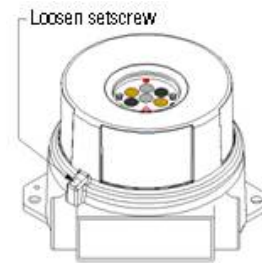

Figure 2-6
1. Loosen the set screw on the enclosure lid (see Figure 2-6).